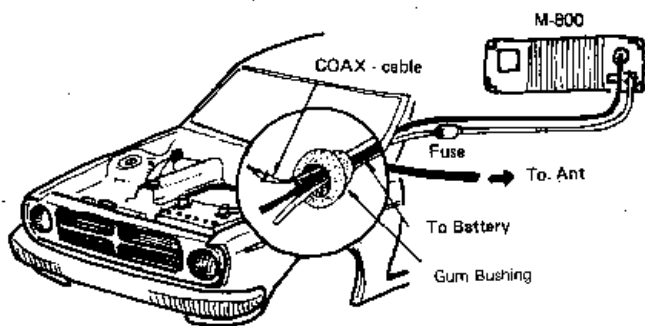

Fig. 2
- d) Be sure that your vehicle is a negative grounded power system. Then connect the power lead with a fuse (RED) to the positive terminal of the power source (a battery in most vehicles) or to the accessory terminal on the ignition switch or to the accessory fuse on the fuse block. Connect the other power lead (BLACK) to the negative terminal of the power source or to the common ground connection. However, the direct wirings from the battery are recommended for noise elimination. (refer to Fig. 2) If the vehicle is positive grounded, you must insulate the set from the body. Please consult your dealer in that case.